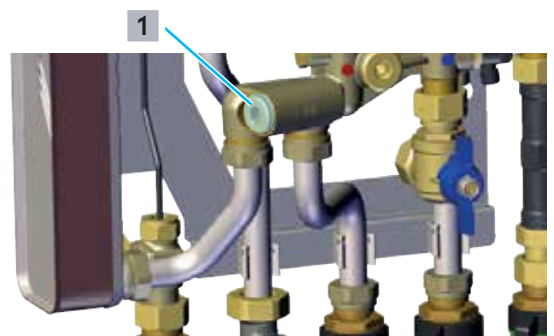

Fig. 25: Cleaning the filter insert
- 4 Unscrew the plug ((1) in Fig. 25 on page 31) of the filter insert from the housing in the primary supply.